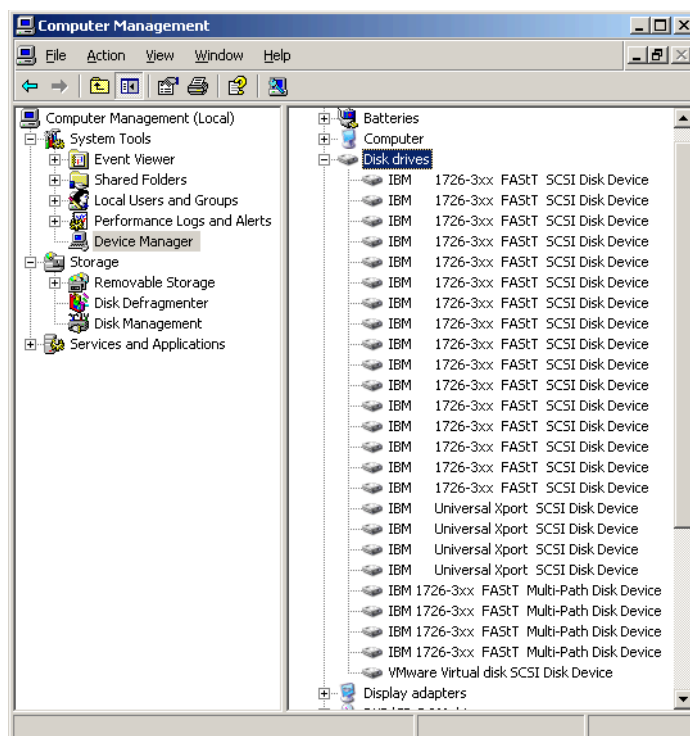

Figure 23-36 Windows Device Manager
13. Figure 23-36 shows the disks as they appear in Device Manager after all connections are made. The two network interface cards are connected each to two iSCSI ports of the DS3300. Four logical drives are configured on the DS3300 that are visible over each port. That adds up to 16 IBM 1726-3xx FAST SCSI Disk Devices in the Device Manager. Each iSCSI port of the DS3300 also provides, by default, the Universal Xport SCSI disk device, which is also seen four times. The multipath driver presents four IBM 1726-3xx FAST Multi-Path Disk Devices to the host that can be used to create partitions in the next section.